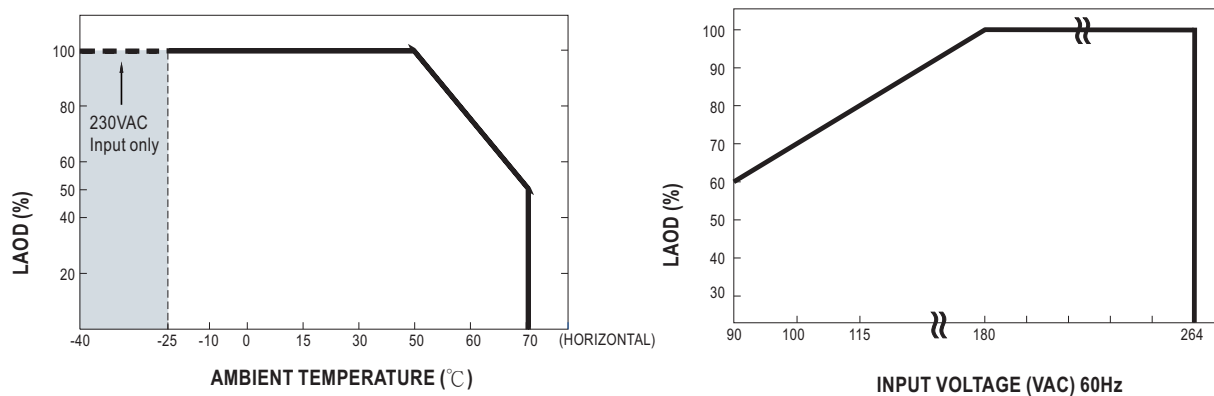

Figure 4-2 Output de-rating curves
- ⊙ When RCP-1600/RCB-1600 units are operating at a lower AC input voltage, these units will de-rate their output current automatically to protect themselves, shown as Figure 4-2.